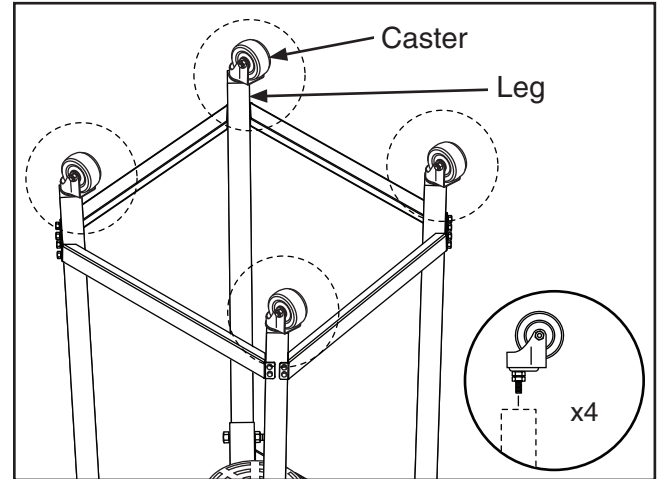

Figure 11. Attaching casters.
4. Attach the four casters to the legs by threading them into the bottom of the legs, as shown in **Figure 11**.
6. Use (8) $\frac{5}{16}$ "-18 x 1" hex bolts, (16) $\frac{5}{16}$ " flat washers, and (8) $\frac{5}{16}$ "-18 hex nuts to attach each collector to the impeller housing with a rubber gasket between the components, as shown in **Figure 11**.